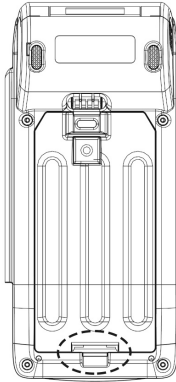

Figure 8
STEP 1: Push the latch to pull the battery cover from AT-100 as Figure 8.